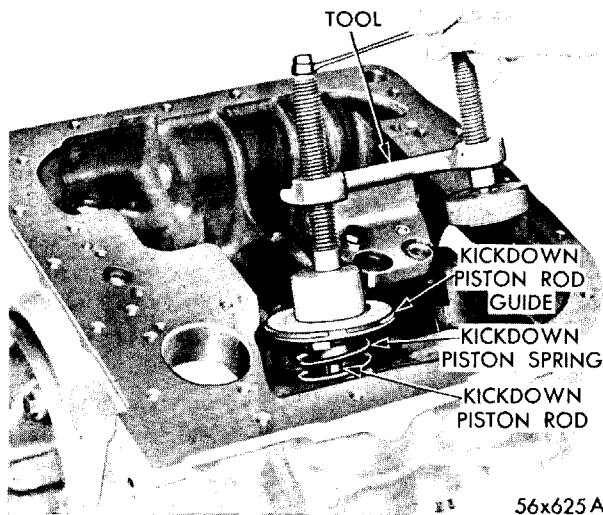

Fig. 82—Removal and Installation of Kickdown Piston Rod Guide and Spring
(3) Place kickdown piston rod assembly in piston and slide piston spring over kickdown piston rod.
(4) Install Tool C-3529 or C-3289 (modified) on case and place kickdown piston rod guide over spring while guiding piston rod guide, as shown in Figure 82.
(5) Using extreme care, compress the kickdown piston spring to the point that the piston rod guide seal ring slightly binds on case and then work seal ring into position by gradually compressing spring, install snap ring and loosen compression portion of tool.